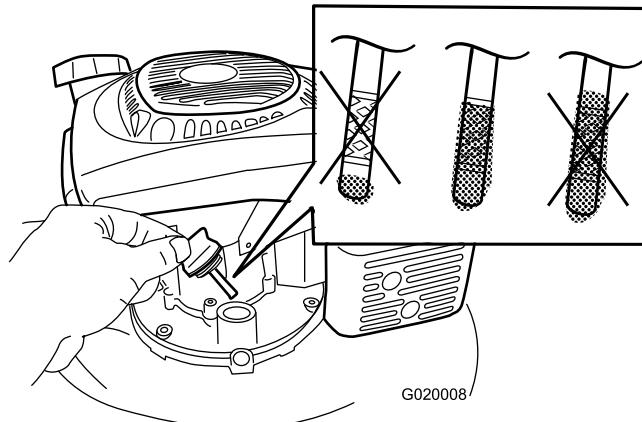

Figure 18
4. Slowly pour oil into the oil-fill tube until the oil level reaches the Full line on the dipstick (Figure 18). **Do not overfill.** (Max. fill: 22 oz. (0.65 l), type: 10W-30 or SAE 30 detergent oil with an API service classification of SJ or higher.)